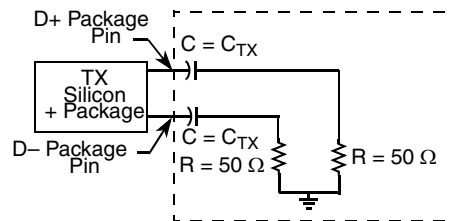

Figure 15. Test Measurement Load
2. Specified at the measurement point into a timing and voltage test load as shown in Figure 15 and measured over any 250 consecutive Tx UIs.
The AC timing and voltage parameters must be verified at the measurement point. The package pins of the device must be connected to the test/measurement load within 0.2 inches of that load, as shown in Figure 15.